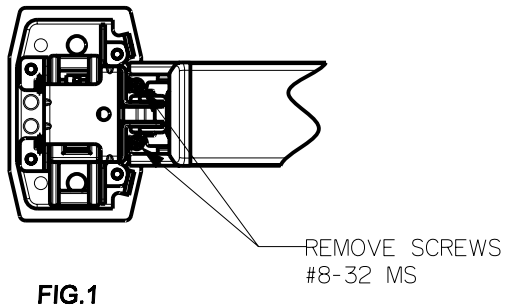

FIG. 1
1. Remove the 2 channel screws.(fig. 1) and slide device channel away from chassis (fig. 2)